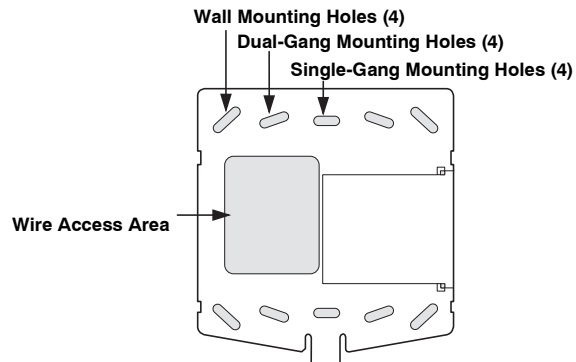

Figure 2. Mounting Holes
2. Place the mounting plate on the wall and mark the four mounting holes (see Figure 2). Be sure to leave a 4¼-inch clearance on the left side to allow for the Quick Guide slide-out card.